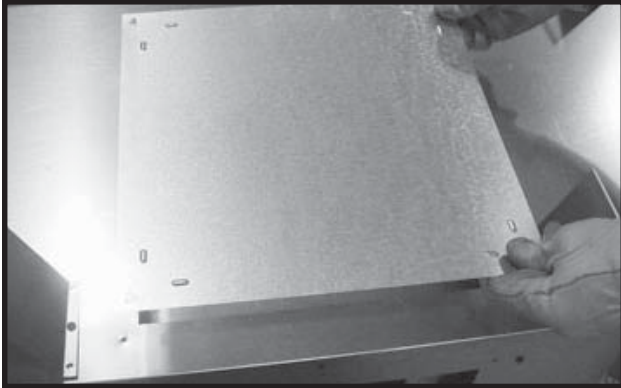
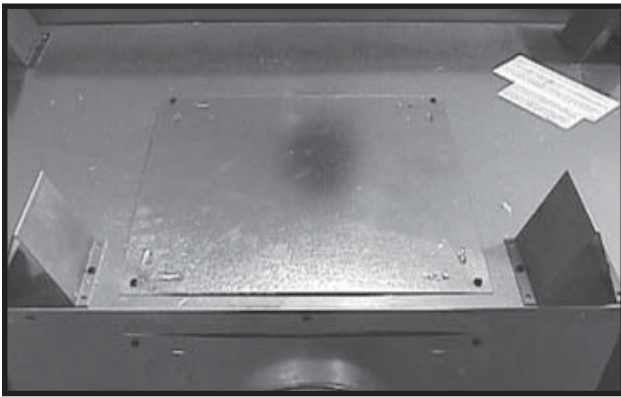

Figure 19 - Place Cover Plate on Top of the Appliance
Figure 20 - Screw Cover Plate into Place
- o. Locate the outer shell cover that was removed in Step f. Place the cover on top of the appliance. See Figure 19. Replace the four screws that hold this plate in place. See Figure 20.